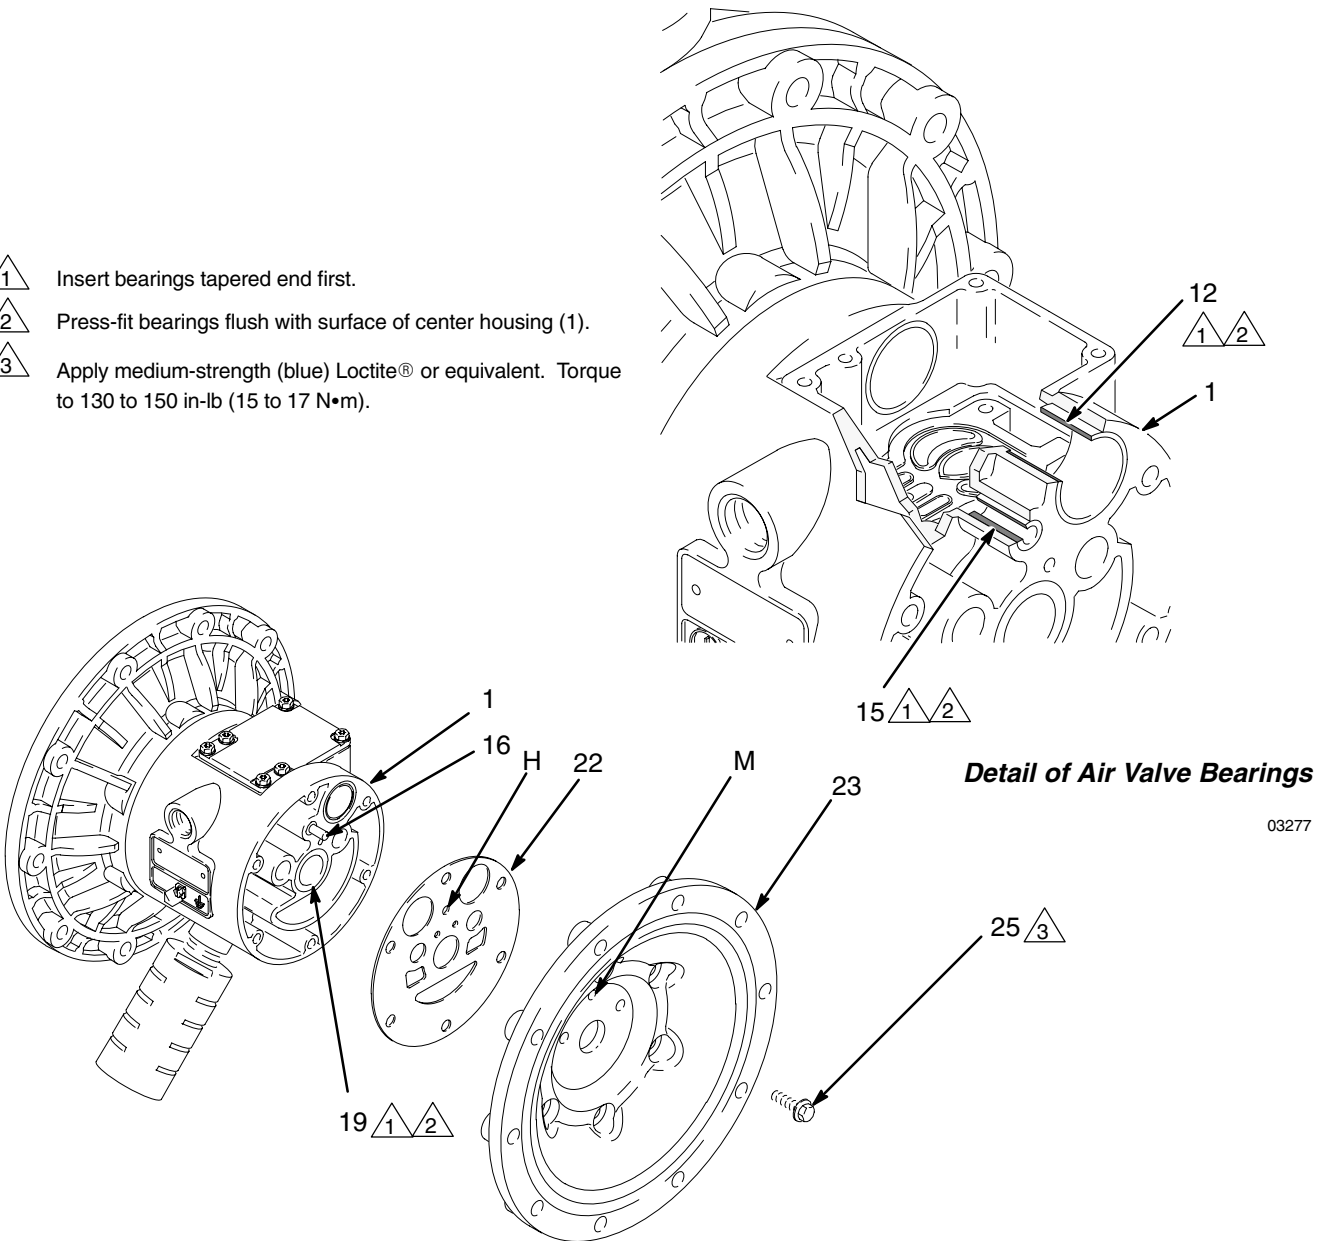

Fig. 14
- NOTE:** If you are removing only the diaphragm shaft bearing (19), skip step 4.
5. Using a 10 mm socket wrench, remove the screws (25) holding the air covers (23) to the center housing (1). See Fig. 14.
6. Remove the air cover gaskets (22). Always replace the gaskets with new ones.
7. Use a bearing puller to remove the diaphragm shaft bearings (19), air valve bearings (12) or pilot pin bearings (15). Do not remove undamaged bearings.
1. If removed, install the shaft u-cup packings (402*) so the lips face **out** of the housing (1).
2. The bearings (19, 12, and 15) are tapered and can only be installed one way. Insert the bearings into the center housing (1), **tapered end first**. Using a press or a block and rubber mallet, press-fit the bearing so it is flush with the surface of the center housing.
4. Align the new air cover gasket (22) so the pilot pin (16) protruding from the center housing (1) fits through the proper hole (H) in the gasket.
5. Apply medium-strength (blue) Loctite® or equivalent to the threads of screws (25). Align the air cover (23) so the pilot pin (16) fits in the middle hole (M) of the three small holes near the center of the cover. Install the screws (25), handtight. See Fig. 14. Using a 10 mm socket wrench, torque the screws oppositely and evenly to 130 to 150 in-lb (15 to 17 N•m).